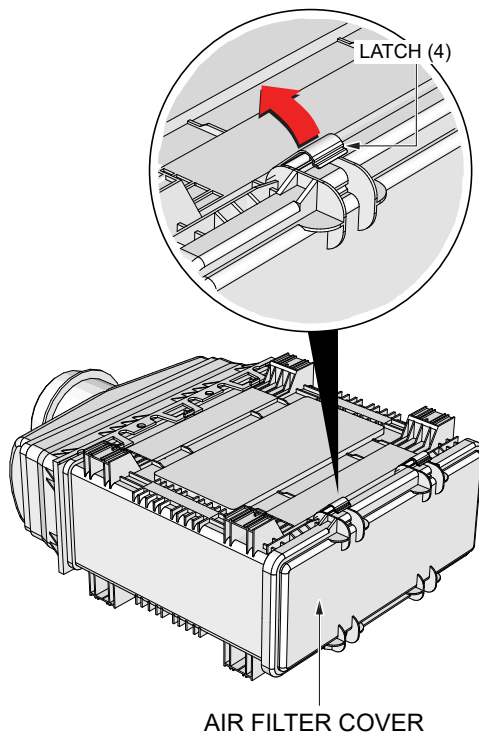

Figure 33. Air Filter Cover
1. Release the four latches (Figure 33) that secures the cover to the air cleaner body.